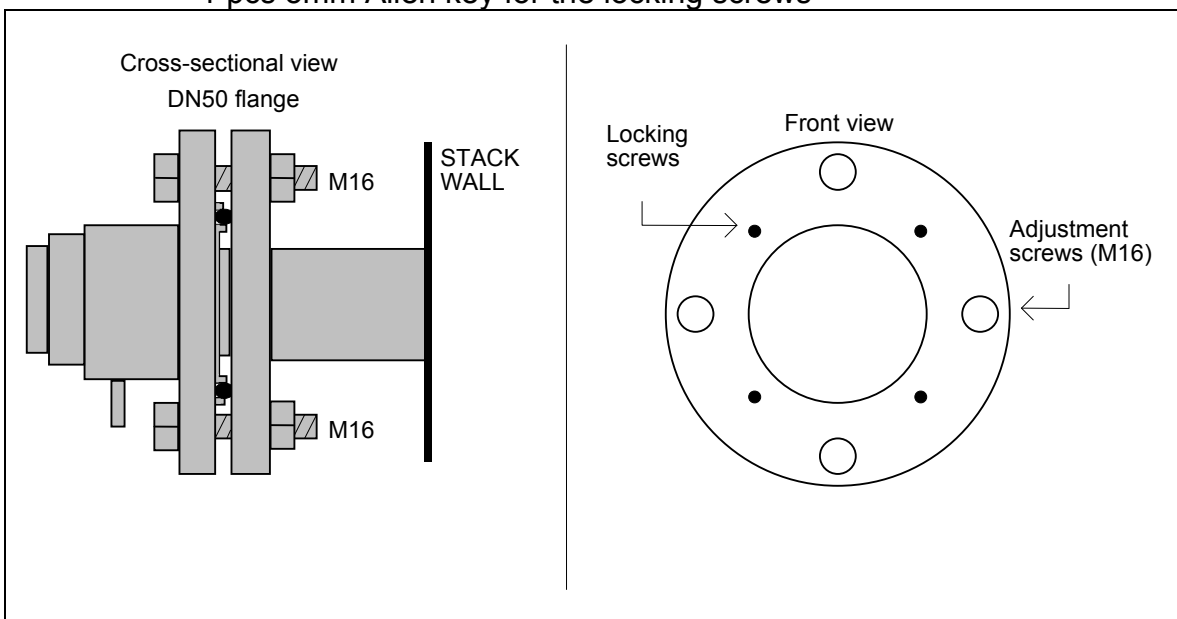

Figure 3-4: Alignment mechanism details
1. Install transmitter alignment and purging unit (5) onto the stack flange with 4 pcs. M16x60 bolts (ref. Figure 3-4). All 4 bolts on either side must be tightened firmly to compress the large o-ring. Adjust the 4 locking screws prior to mounting the unit, to assure good alignment of the unit and a uniform compression of the o-ring.
4. Put the window adapter ring (4) on the alignment unit. Make sure that the o-ring on the alignment unit is tight and greased. The guiding pin on the alignment unit must fit the hole in the adapter ring.
3. Mount the red laser alignment jig on the transmitter side using the supplied mounting nut and locate the laser beam on the receiver side using the target. Loosen the adjustment screws shown in Figure 3-4 on the transmitter unit purging flange and move it carefully from side to side and up and down to locate the laser beam in the receiver hole. (You may need two persons)
2. Disconnect the red laser alignment jig from the transmitter side and mount it on the receiver side. Locate the laser beam on the transmitter side. Loosen the adjustment screws shown in Figure 3-4 on the receiver unit purging flange and move it carefully from side to side and up and down to locate the laser beam in the transmitter hole. (You may need two persons)